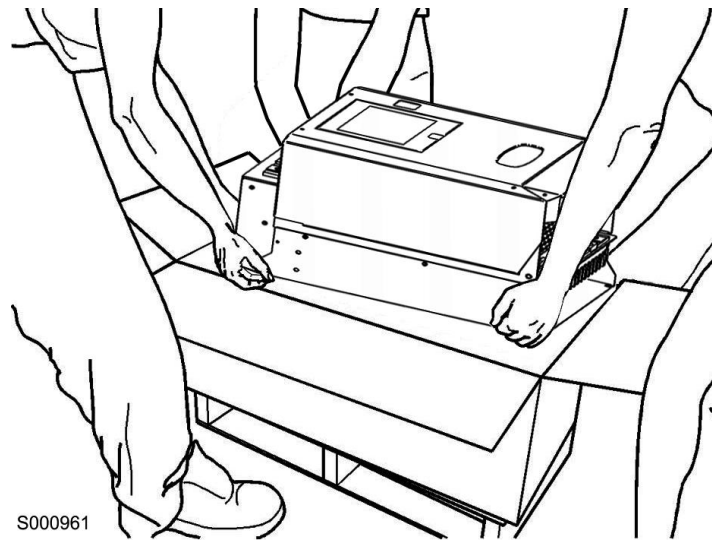

Figure 4: The DCREG is unpacked
3. Remove the DCREG from its packing by lifting it from its sides. To avoid damaging the packing, lift the product keeping it horizontal to the floor (see Figure 4).